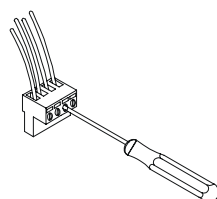

Figure 2
Step 2 – Connect the wiring to the removable locking connector INCLUDED with the speaker. (Figure 2)